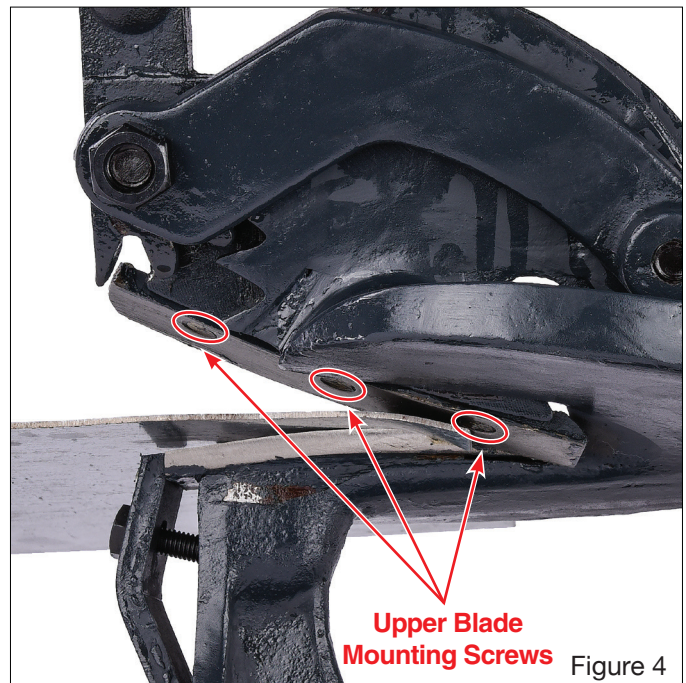

Figure 4
- Loosen (3) three philips screws in blade. (Figure 4)